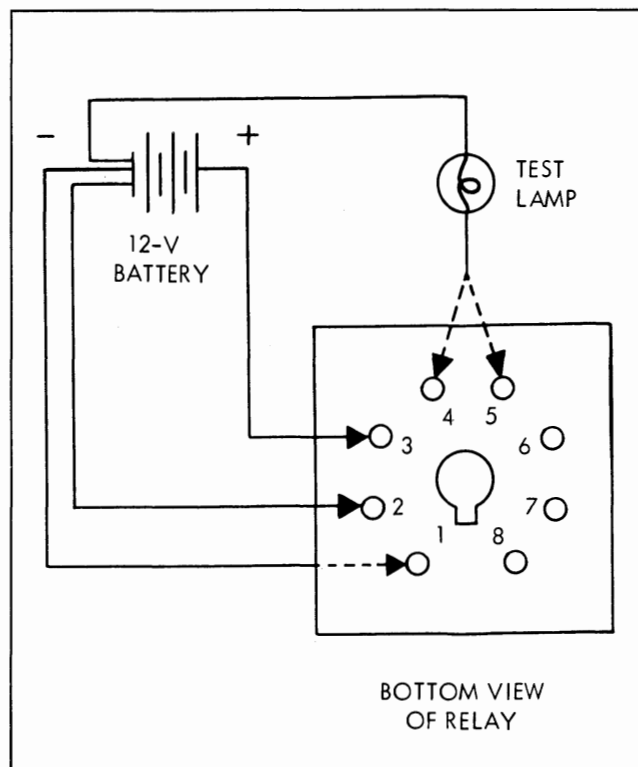

Fig. 12-10 Relay Pull-In Check
1. Connect pins 1 and 2 to the negative terminal of a 12 volt battery. See Fig. 12-10.